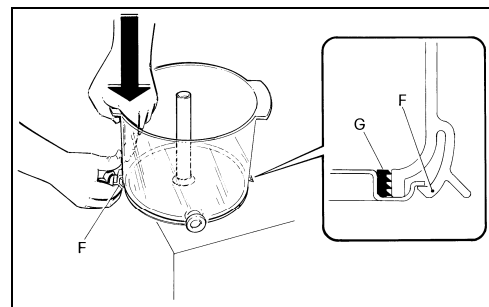

Fig. 12
- When fitting, position the seal (G) as shown in fig 12.
- In order to facilitate fitting operations, spread Vaseline or another suitable lubricant over the seat of the container (A) where it comes into contact with the seal (G) (fig. 12).
- Pull the lever (F) outwards, pushing the tank downwards so that it fits into its seat (fig 12).